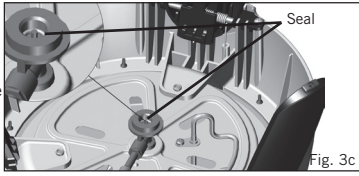

Fig. 3c
- If bubbles form, then there is a gas leak. Immediately remove the gas cartridge from the appliance. Check that all the connections are properly fitted. Check that the seal is in place and in good condition before connecting a gas cartridge (Fig. 3c). Re-check with soapy water after refitting the cartridge.
- Check the seal before replacing the gas container (Fig. 3c).